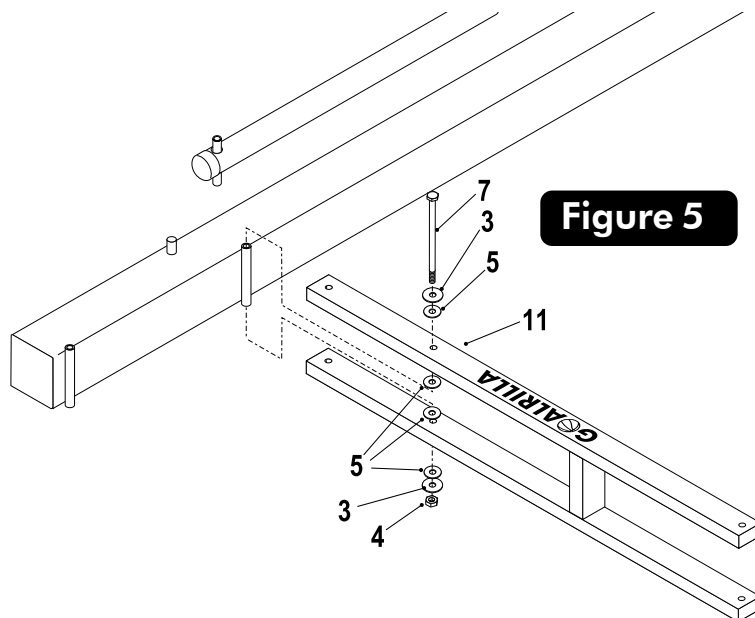

Figure 5
5. Attach lower arm (#11) to Pole (#2), as shown in Figure 5, using a bolt (#7), two flatwashers (#3), four plastic washers (#5) and hex nut (#4). Do NOT tighten bolt (#7) at this time.